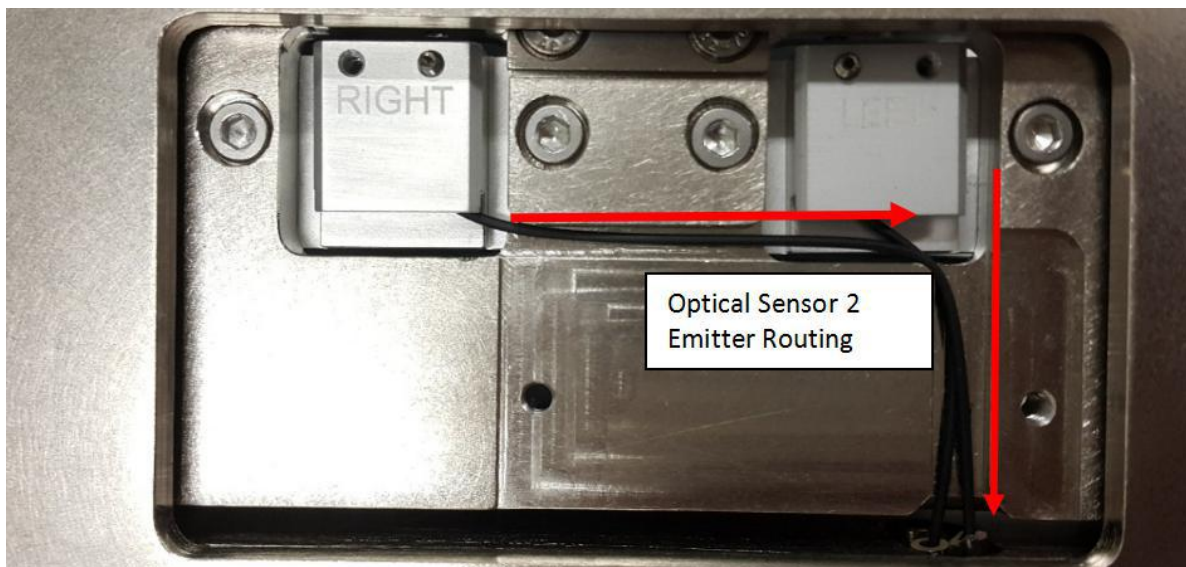

Figure 28 Optical Sensor 2 Emitter Routing
7. The routing for Optical Sensor 2 Emitter is as shown below in Figure 28.